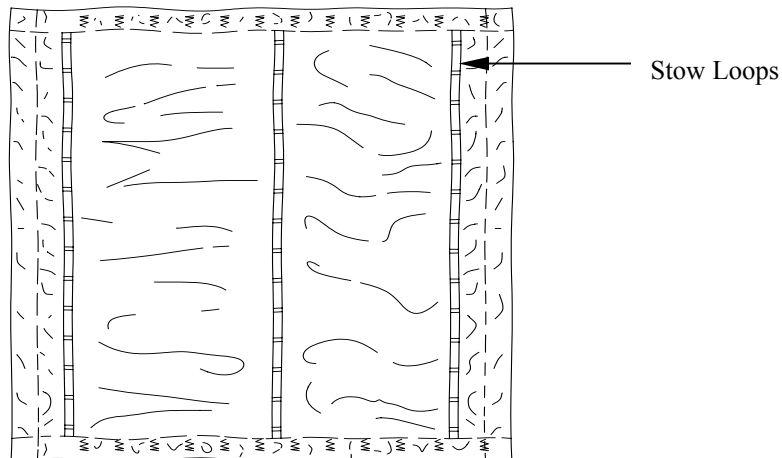

Figure 1. Extraction Line Panel with Stow Loops Facing Up.
- a. Place one Extraction Line Panel on packing table or suitable surface with stow loops facing up and running lengthwise (figure 1). Place second panel on top of first panel with stow loops facing down.